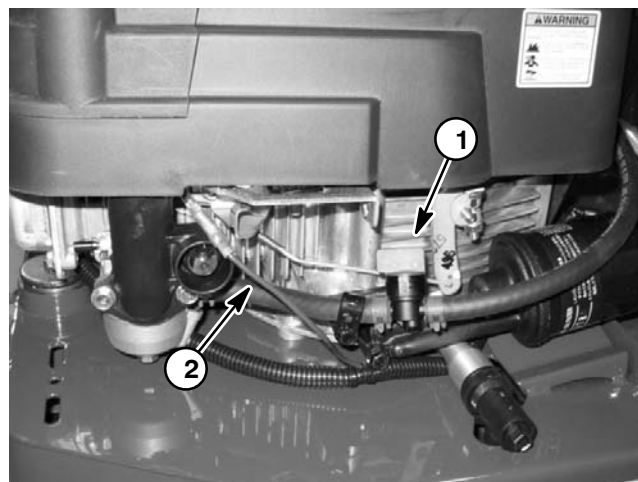

Figure 6
6. Disconnect stop switch wire from engine (Fig. 6). Make sure that ground wire is removed from fuel tank bracket (item 14).